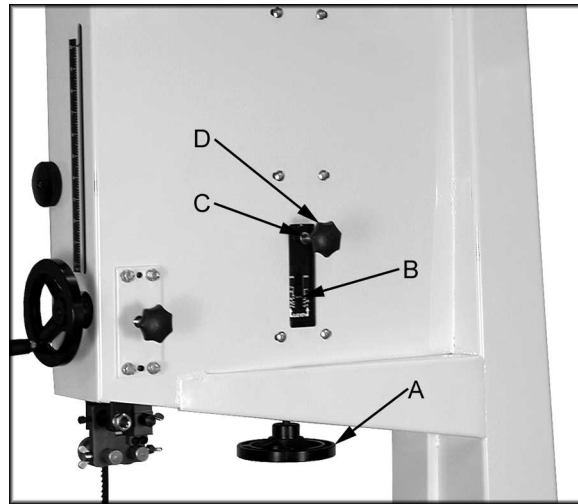

Figure 18
2. Turn blade tension handwheel (A, Figure 18) counterclockwise to tension blade, and clockwise to loosen the tension. A gauge on the upper wheel slide bracket (B, Figure 18) indicates the approximate tension according to the width of the blade. The JWBS-18 comes with a 3/4" blade so the tension should be set at 3/4" when using this blade.
3. If adjustment is necessary, loosen the wing nut (C, Figure 18) at the top rear of the saw.
4. Adjust tracking by turning the knob (D, Figure 18) in 1/4 turn increments. Rotate the wheel forward, and observe the position of the blade on the wheel. Rotating knob (D, Figure 18) counterclockwise should move the blade towards the front of the wheel. Rotating the knob clockwise should move the blade towards the back of the wheel.
6. Tighten the wing nut (C, Figure 18).